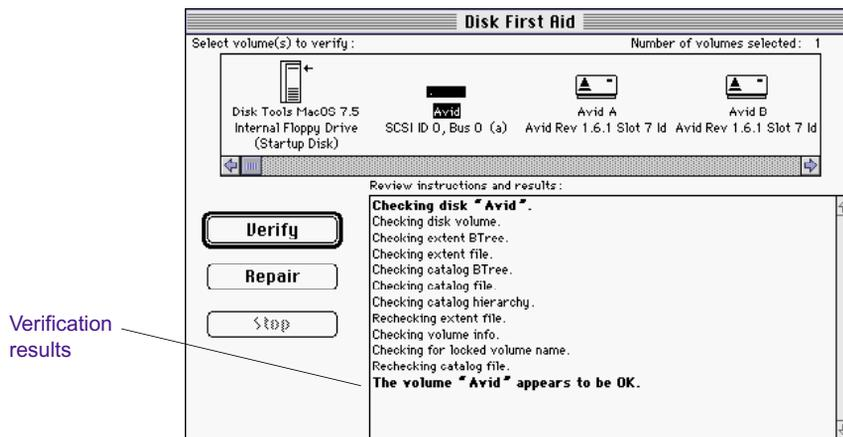

Figure 40 Disk First Aid Verification Results
4. Verify and repair the selected drive by clicking Repair. Disk First Aid scans the directory structures, reports any problems, repairs the selected drive (if possible) and reports the results (see Figure 40).